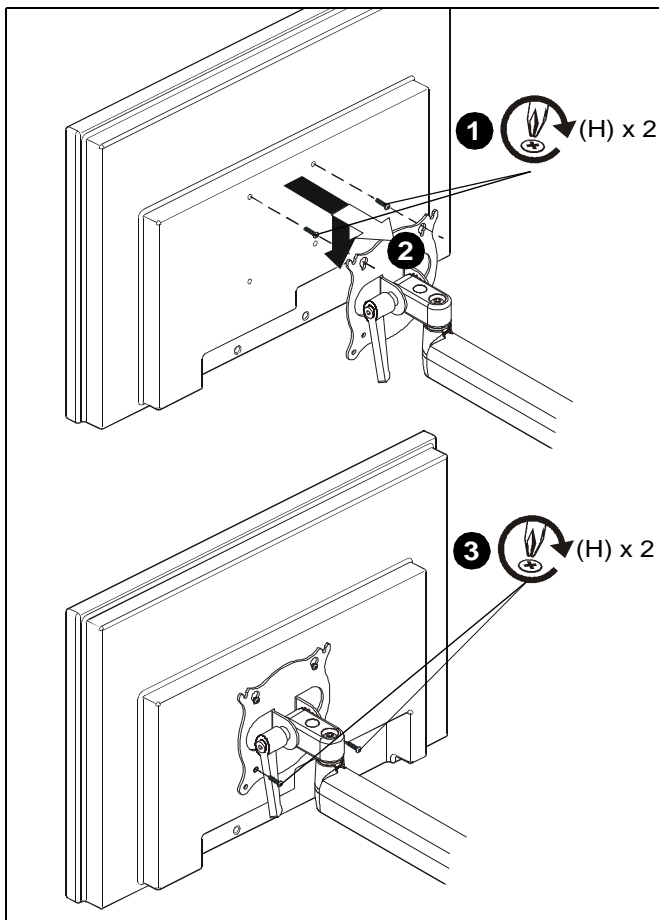

Figure 4
1. Carefully install two Phillips pan machine screws (H) into the *upper* mounting holes on the display. Thread screws completely into display, then back out 3 complete turns. (See Figure 4)
2. Pick up and align display so that screws (H) fit into the mounting holes on the extreme pitch bracket. Lower the display firmly into place. (See Figure 4)
3. Carefully install two Phillips pan machine screws (H) into the lower mounting holes on the display to secure mount to display. (See Figure 4)
4. Tighten all four screws (H). Do not over-tighten!